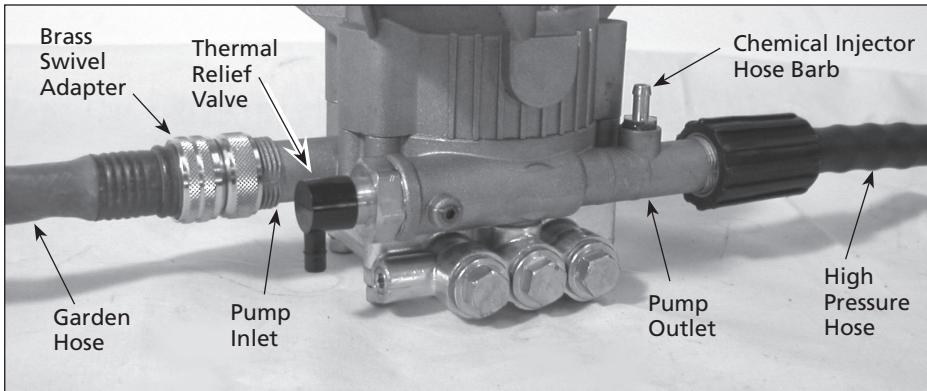

Figure 2 - Pump hook up
- Brass Swivel Adaptor** (See Figure 2). If it's not already attached to the pump inlet, assemble the brass swivel adapter and attach it to the pump inlet (See Figure 4 and Figure 5). Be sure to connect the correct side of the brass swivel adapter to the pump.
6. Connect the high pressure hose to the pump outlet (See Figures 2 and 6).